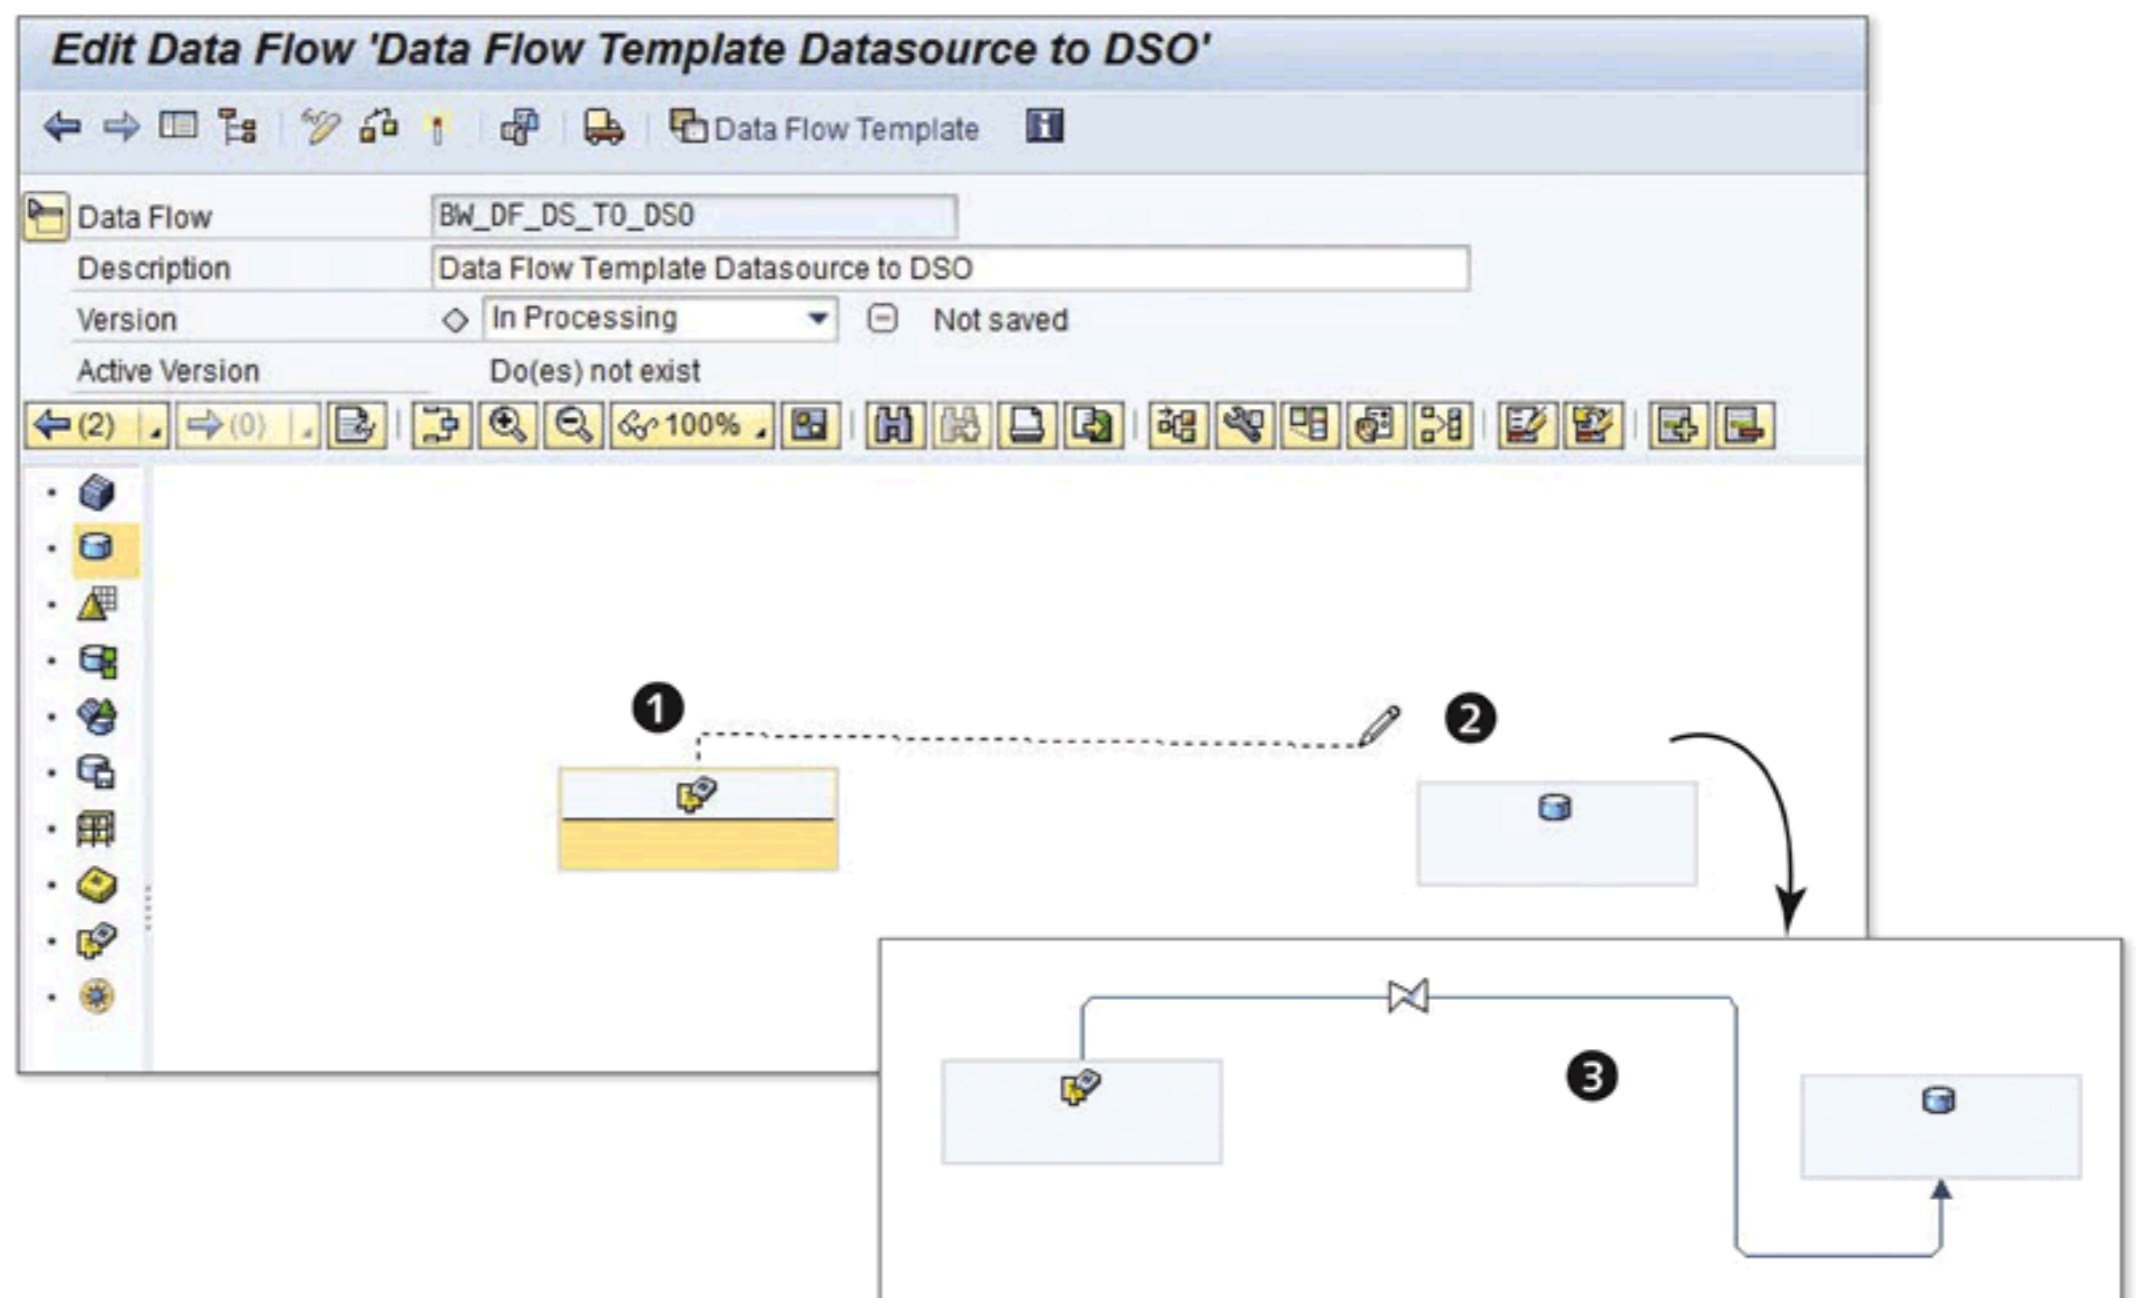

Figure 7.92 Edit Data Flow: Part 3
Both source and target objects are available in the right side panel, and the next step is to connect them. Click on DATASOURCE (❶ of Figure 7.92) and drag it towards the target object—which, in our scenario, is a DSO (❷ of Figure 7.92)—and connect it to the DSO. The resulting data flow is shown in ❸ of Figure 7.92, and the established connection is shown by the TRANSFORMATION icon. The data flow is now ready—all you need to do is save it as a template, so it can be used in creating future data flows.